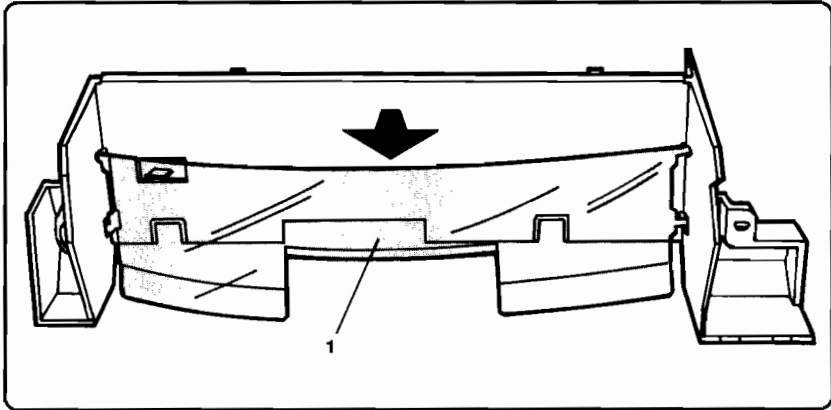

Figure 6-19. Paper Support Plate Removal
4. While holding the Paper Guide, pull up on the center of the Paper Support Plate to remove the plate. The plate should bow slightly (see Figure 6-19, callout 1).